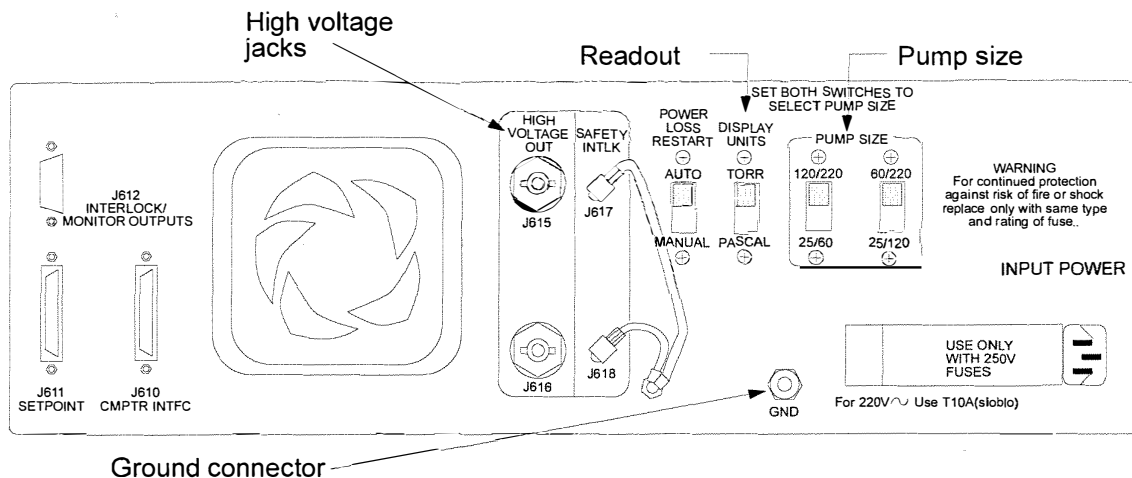

Figure 2-1. Rear Panel of the DIGITEL
1. Before making connections, make sure that the following items have been configured on the rear panel (Figure 2-1):
3. With power disconnected, connect the 15 ft. (457 cm) grounding wire between the pump and the safety ground at the rear of the chassis (Figure 2-1).
4. With power disconnected, connect the high voltage cable (not supplied) to the ion pump and to one of the high voltage jacks on the rear panel (Figure 2-1).